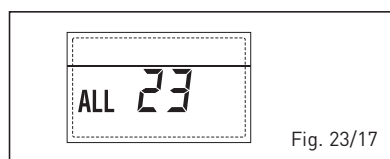

Fig. 23/17
– **ANOMALÍA DE LA Sonda DEL COLECTOR SOLAR (S1) “AL 24”** (fig. 23/18)